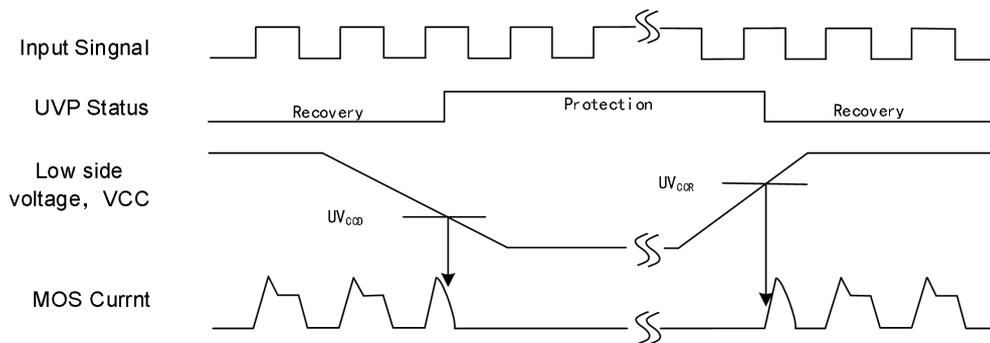
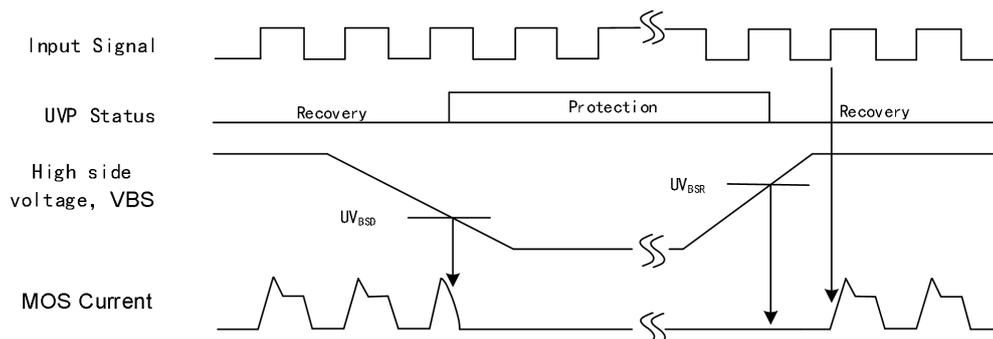

Figure 3 Undervoltage protection low side:
Figure 4 Undervoltage protection high side:
(1)The timing diagram of the high and low side undervoltage protection function is shown in Figure 3/Figure 4